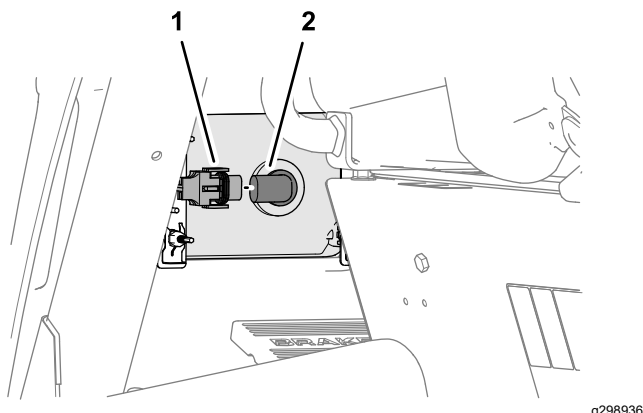

Figure 96
- Assemble the headlight connector of the machine wire harness to the connector of the headlight bulb (Figure 96).